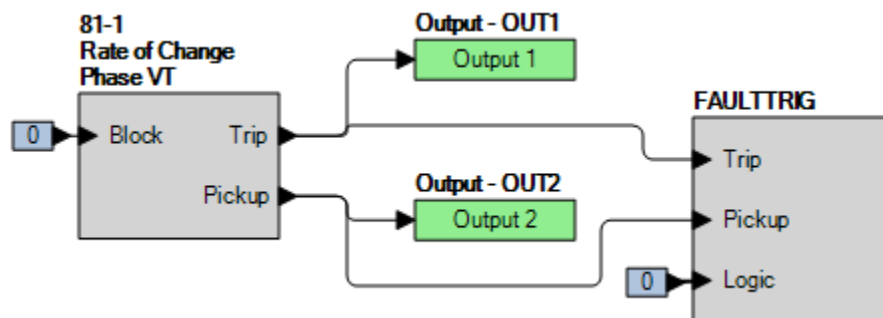

Figure 62-3. BESTlogicPlus Settings (ROC Frequency)
- Step 2: Use *BESTCOMSPPlus* to configure the *BESTlogicPlus* programmable logic shown in Figure 62-3.
- Step 3: Prepare to monitor the 81-1 function operation. Operation can be verified by monitoring OUT2 (see Figure 62-3).